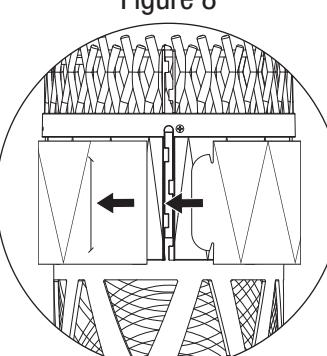

Figure 8
5. Attach fresh TacTrap and remove protective paper (Figure 8).
9. Attach fresh TacTrap and remove protective paper (Figure 8).
10. Attach fresh TacTrap and remove protective paper (Figure 8).